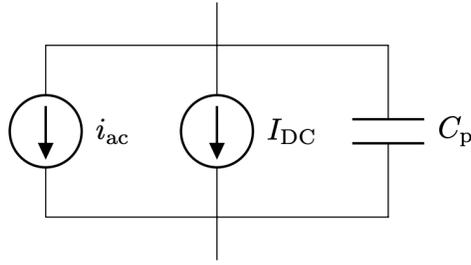

Figure 12: Photodiode model.
- P7. The photodiode has a parasitic capacitance that depends on the reverse bias voltage and can be modeled as shown in Figure 12.
P7.2 Simulate the first stage of each implementation in LTspice using AC simulation. You can model the photodiode as shown above in Figure 12. Use a voltage-controlled voltage source (component 'e' in LTspice) to model the amplifier, and an equivalent resistor to model the indicator LED voltage drop. Attach both schematics to your worksheet. Plot the AC gain (from the input current i_{ac} to the output voltage across the indicator LED) vs frequency. Attach a screenshot of both curves on the same plot to your worksheet. Record the bandwidth and compare to your calculations.